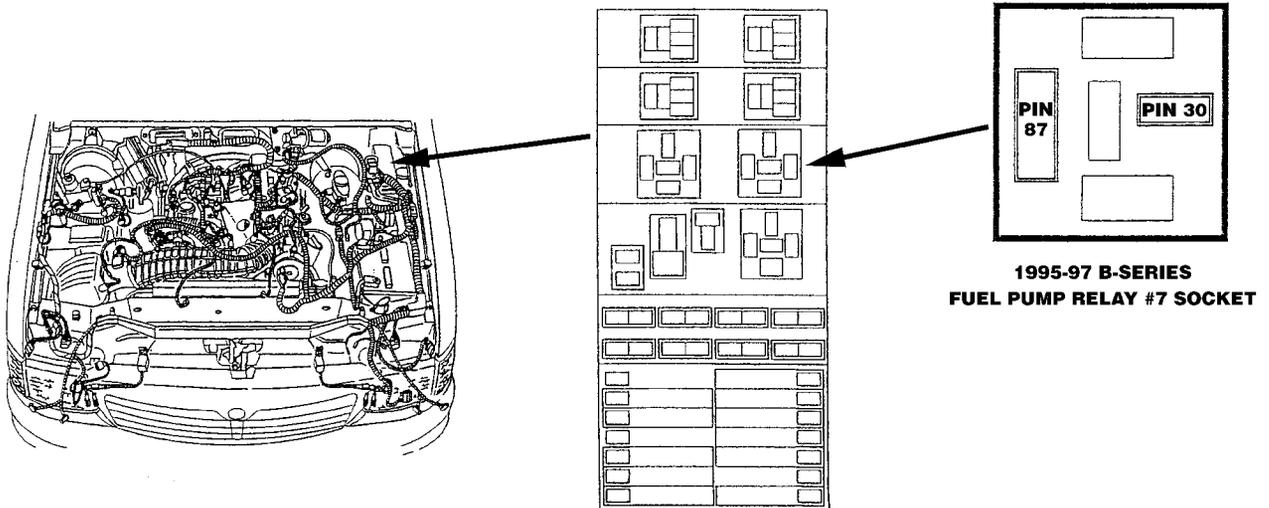

Figure MA014-4
2. Locate engine compartment fuse/relay box at left rear corner of engine compartment area of driver side hood hinge. Refer to the fuse and relay box diagram (Figure MA014-4).